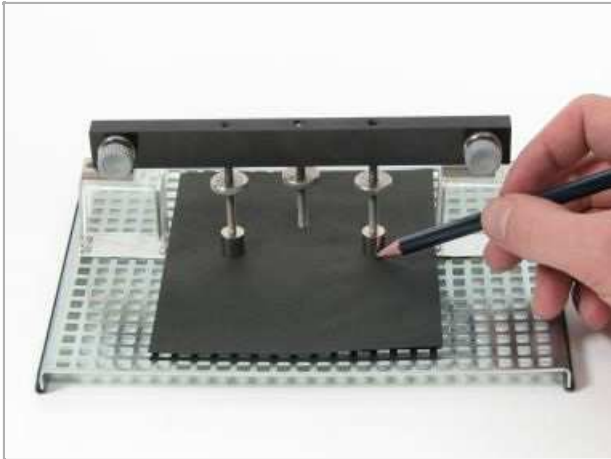

Fig. 8
- Draw the profiles of the electrodes on the carbon paper, loosen the knurled screws slightly and remove the carbon paper again (Fig. 8).